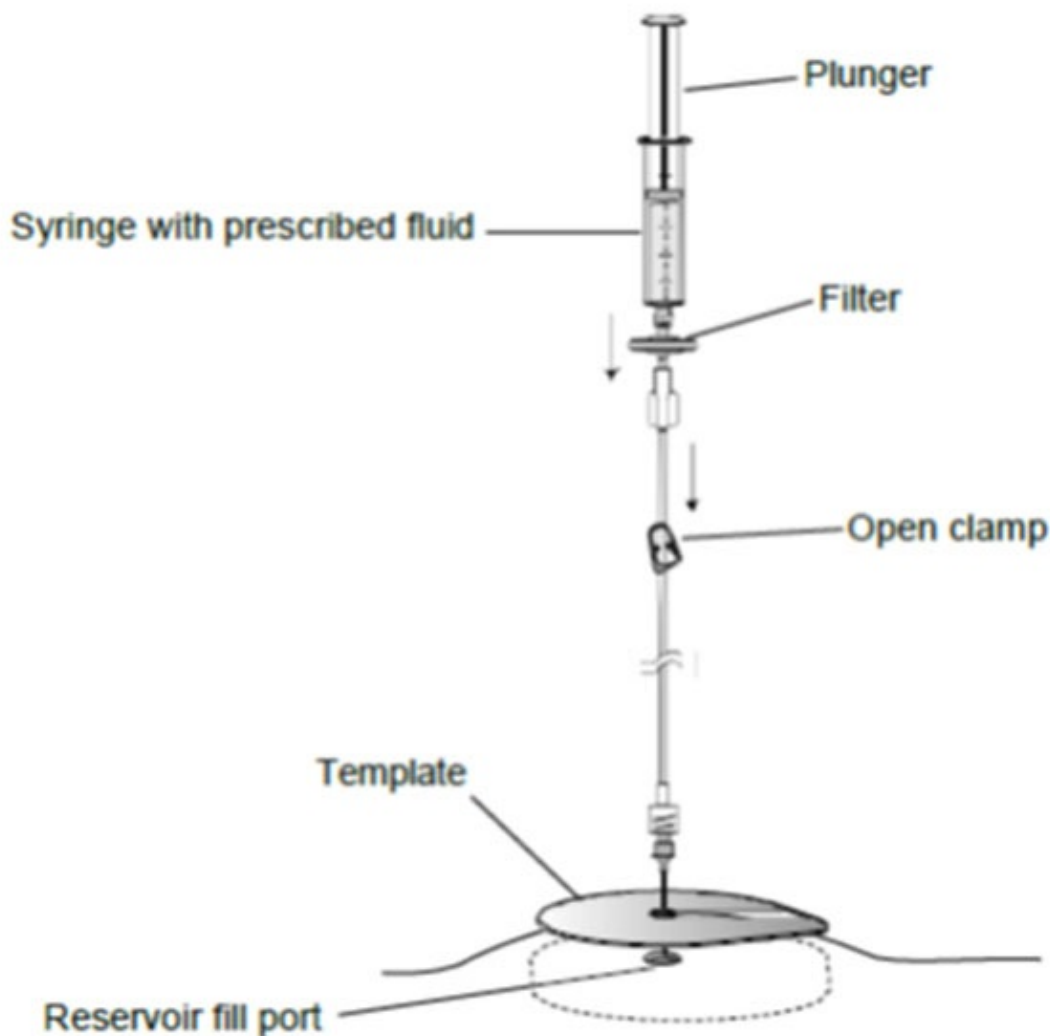

Figure 5. *Open the clamp and inject into the pump reservoir.*
6. Attach the syringe with the prescribed fluid and filter to the extension set (Figure 5).
9. Slowly depress the plunger on the syringe to inject the prescribed fluid into the pump reservoir. While injecting the prescribed fluid, verify that the needle remains properly located within the reservoir (Figure 5).
- c. Purge the air from the second syringe, and attach the second syringe to the filter (Figure 5).